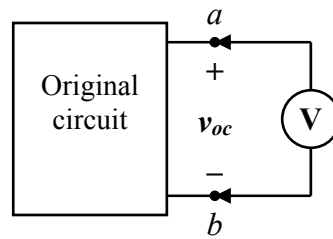

Figure 4.1b
- (1) measuring the *open-circuit voltage* across terminals *a* and *b*, v_{oc} (**Figure 4.1b**); and